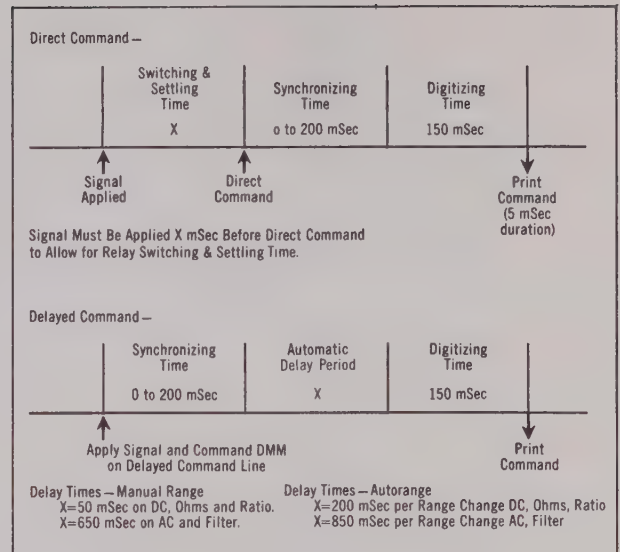

Figure 2.9 - Command Timing
2.72 In HOLD mode, a contact-closure to common or a false logic level applied to this line, pin B10, commands a new reading after a fixed delay period or "timeout" to allow for settling time of the input signal and relay operation. Timeouts for each function are listed in the command timing diagram, figure 2.9.